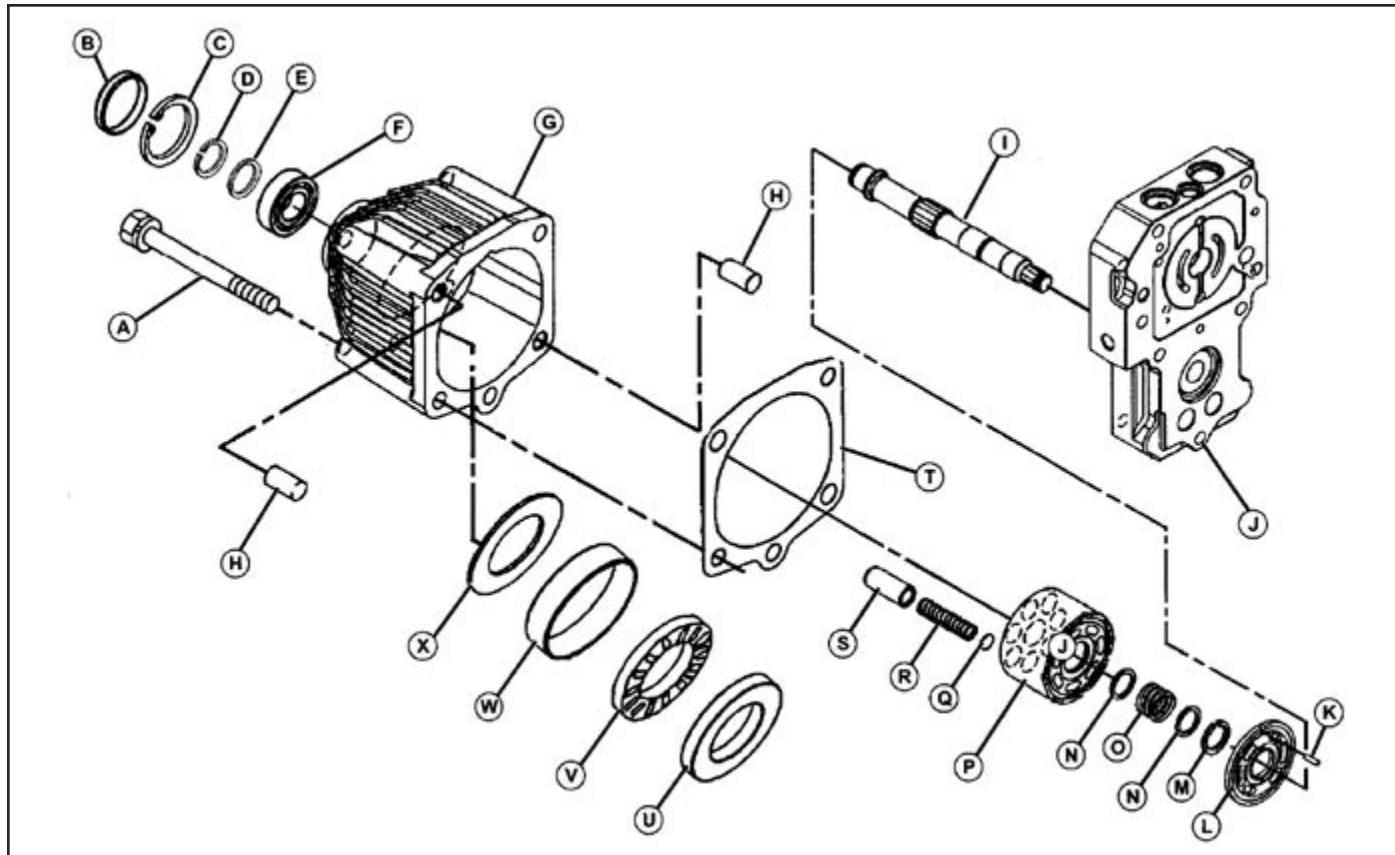

Fig. 55, Hydrostatic Transmission Motor Disassembly (2WD)
1. Remove two cap screws (A). (Fig. 55)
7. Thrust bearing (V) must rotate freely. (Fig. 55)
NOTE: *Thin thrust plate (X), bushing (W) and motor case (G) must be replaced as a set. (Fig. 55)*
9. Remove seal cap (B) and snap ring (C) to remove shaft assembly components.
10. Inspect bushing (W), thrust bearing (V) and shaft (I) for wear or damage. Replace if necessary. (Fig. 55)